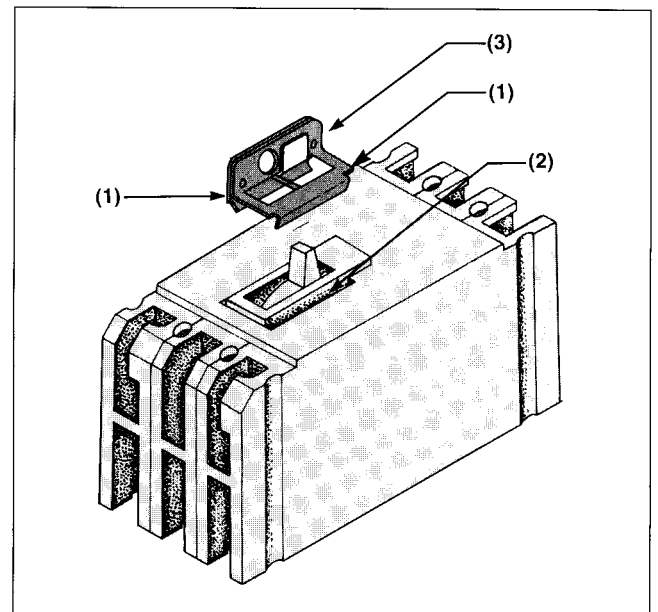
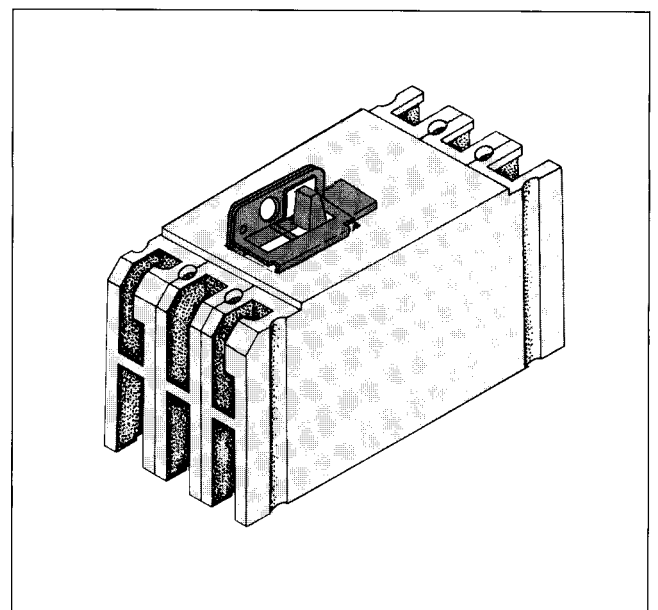

Figure 3
Figure 4
Assemble padlocking device to breaker by placing it over breaker handle (Figure 3). Position tabs (1) into slots (2) on either side of pad (Figure 4); tighten screws (3) to secure padlocking device.